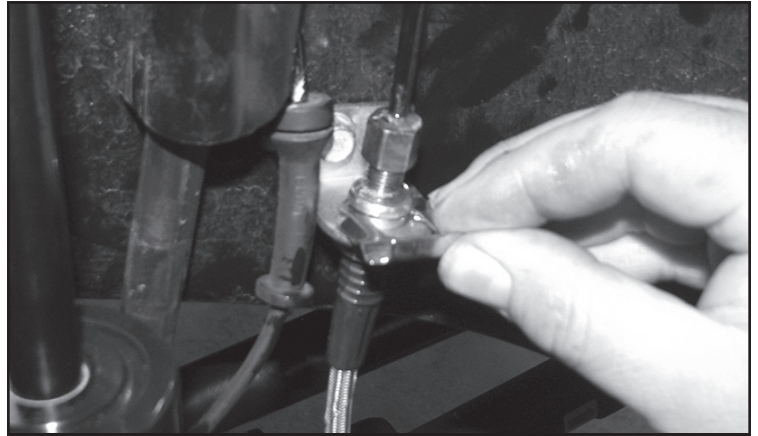

FIGURE 27 - STEP 25
25. Insert the new brake line fitting through the bracket and install onto the factory brake hardline. Next, install the supplied u-clip to secure the line to the bracket. **SEE FIGURE 27**